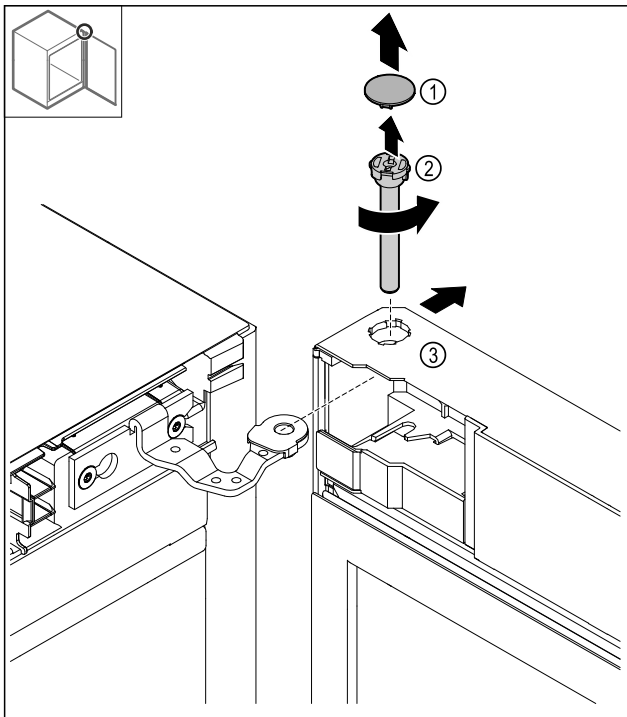

Fig. 18
- Removing the cover Fig. 18 (1).
- Loosen the bolt Fig. 18 (2) anti-clockwise and pull it out.
- Tilt the door Fig. 18 (3) slightly.